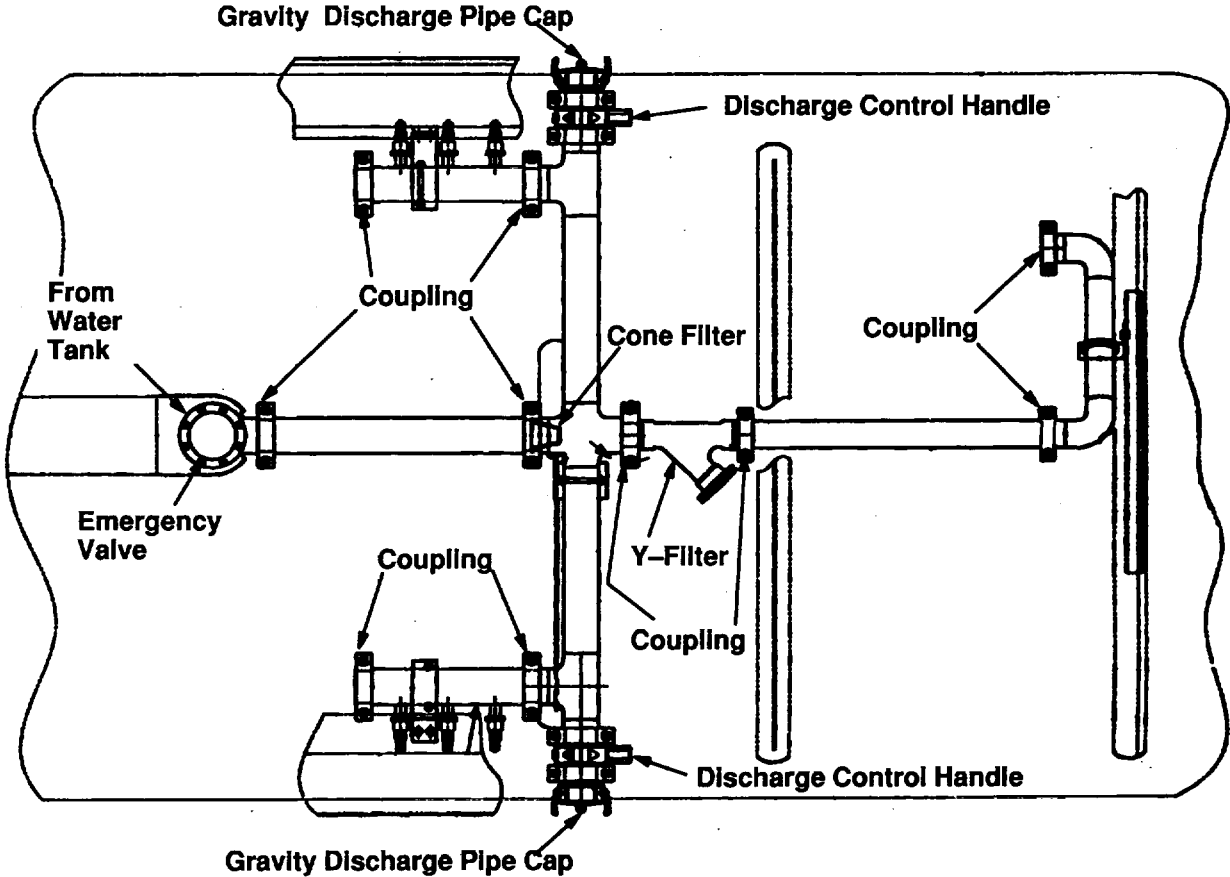

Figure 4-28. M1098 Water Piping
- (1) Close emergency valve.
- (2) Open discharge valve and drain water from path of emergency valve through discharge valve.
- (3) Remove two bolts that secure coupling to pipe at cone filter, fig. 4-28. Loosen or remove coupling bolts at other end of pipe so that cone filter can be removed. If pipe is not removed, support at both ends after filter is removed.
- (4) Inspect filter for damage. Replace if damaged. Clean with water if not damaged.
- (5) Install cone filter into pipe and support pipe at both ends. Secure coupling with two bolts at each end of pipe.
- (6) Close discharge valve and open emergency valve.
- (7) Open discharge valve and allow air to expel until a free flow of water is observed. Then close discharge valve and emergency valve.